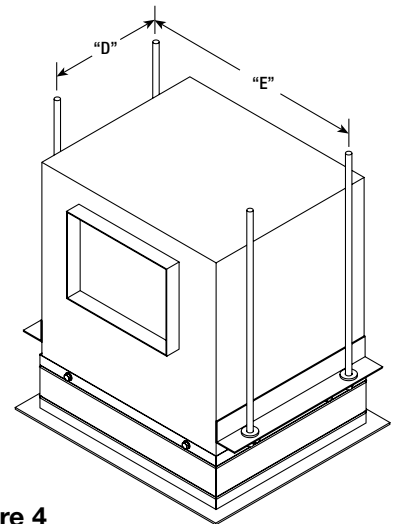

Figure 4
- 1) Suspend fan/damper assembly using #10 -32 threaded steel rod as shown in Figure 4. Suspend from joists or cold rolled channels (do not suspend from beams). If vibration isolators are used, fender washers must have a larger outside diameter than the holes in the fan mounting angle.